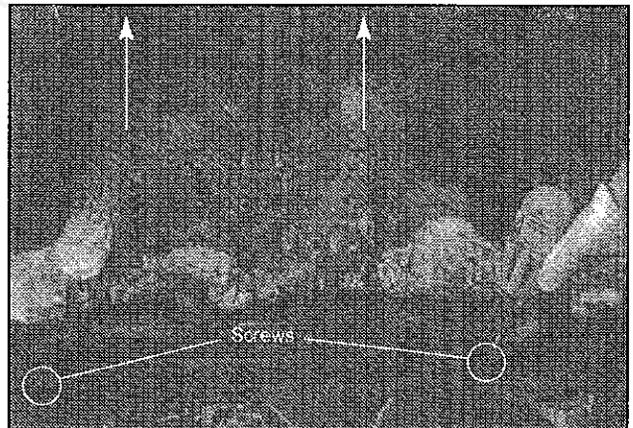

Figure 3.8 Loosen Grate
- Lift the two top logs off the log set. See Figure 3.8.
- Remove the grate/log assembly by removing two screws as shown in Figure 3.8. Lift and pull grate/log assembly from front of firebox.